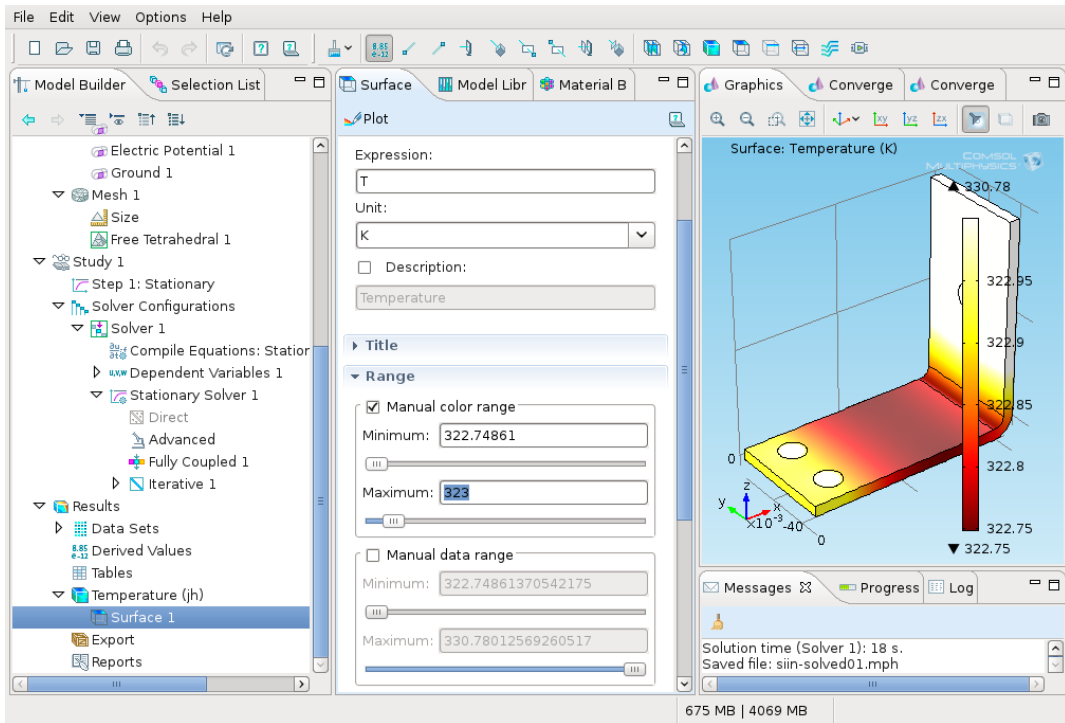

Figure 38: Changing the temperature scale.
- 4 It is possible to alter the setting of the temperature scale manually to visualise temperature differences for different parts of the geometry. In the case of copper: **Model Builder** → **Results** → **Temperature** → **Surface 1**. Make active **Manual color range** in the **Surface** parameter window and set the **Minimum** value to **323** (Fig. 38).